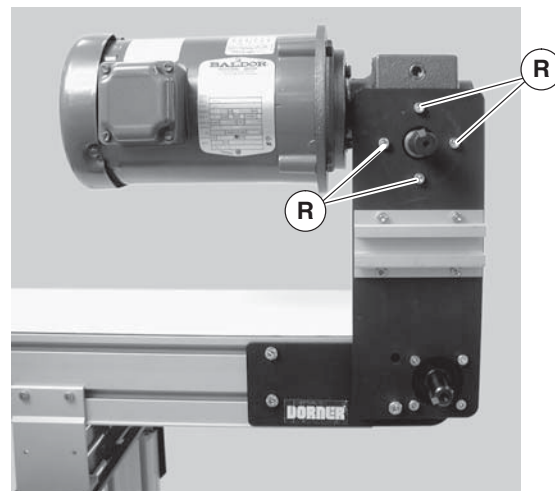

**Figure 2**
1. Typical components (Figure 2)